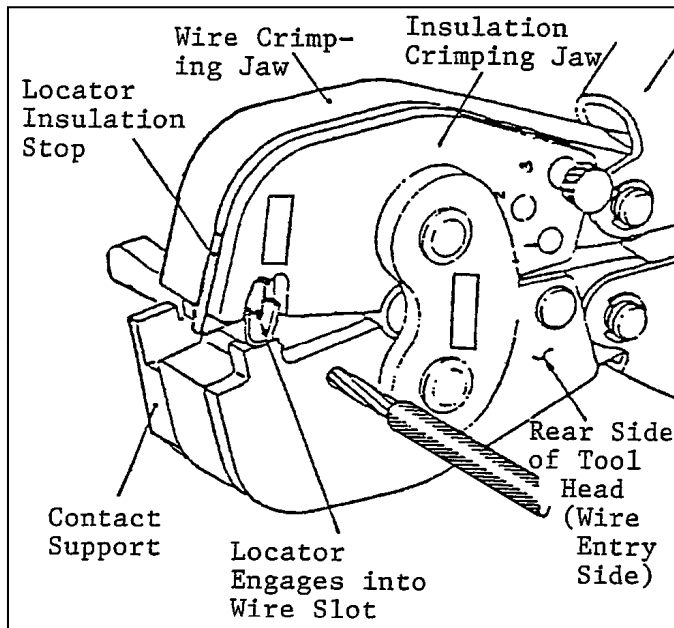

Fig. 3
3. Crimping Procedure: (See Fig. 3.)